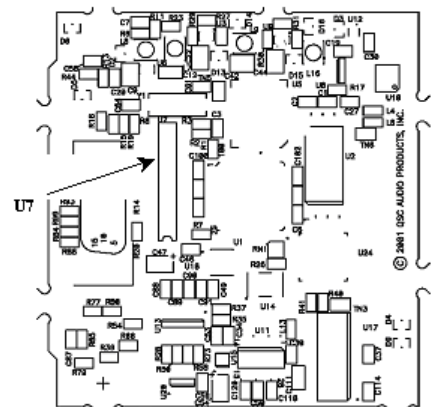

Figure 2. Locate the microcontroller U7.
5. Locate the microcontroller U7. See Figure 2.